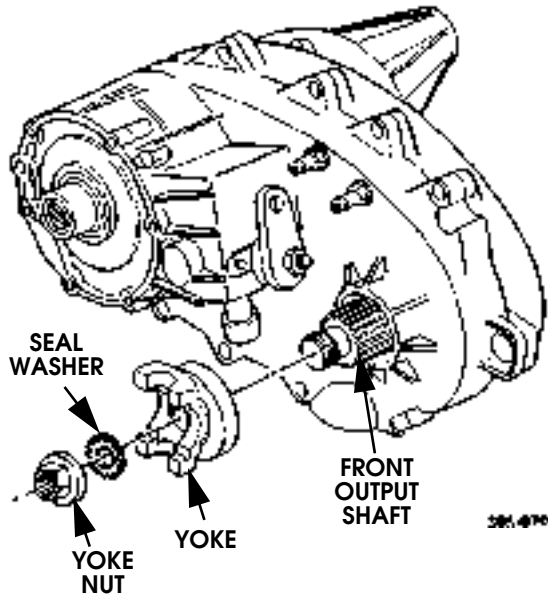

Figure 5-82: Front Yoke Removal/Installation
2. Remove front output shaft yoke (Figure 5-82). Remove yoke nut with suitable size socket and impact wrench. Then remove seal washer and yoke.